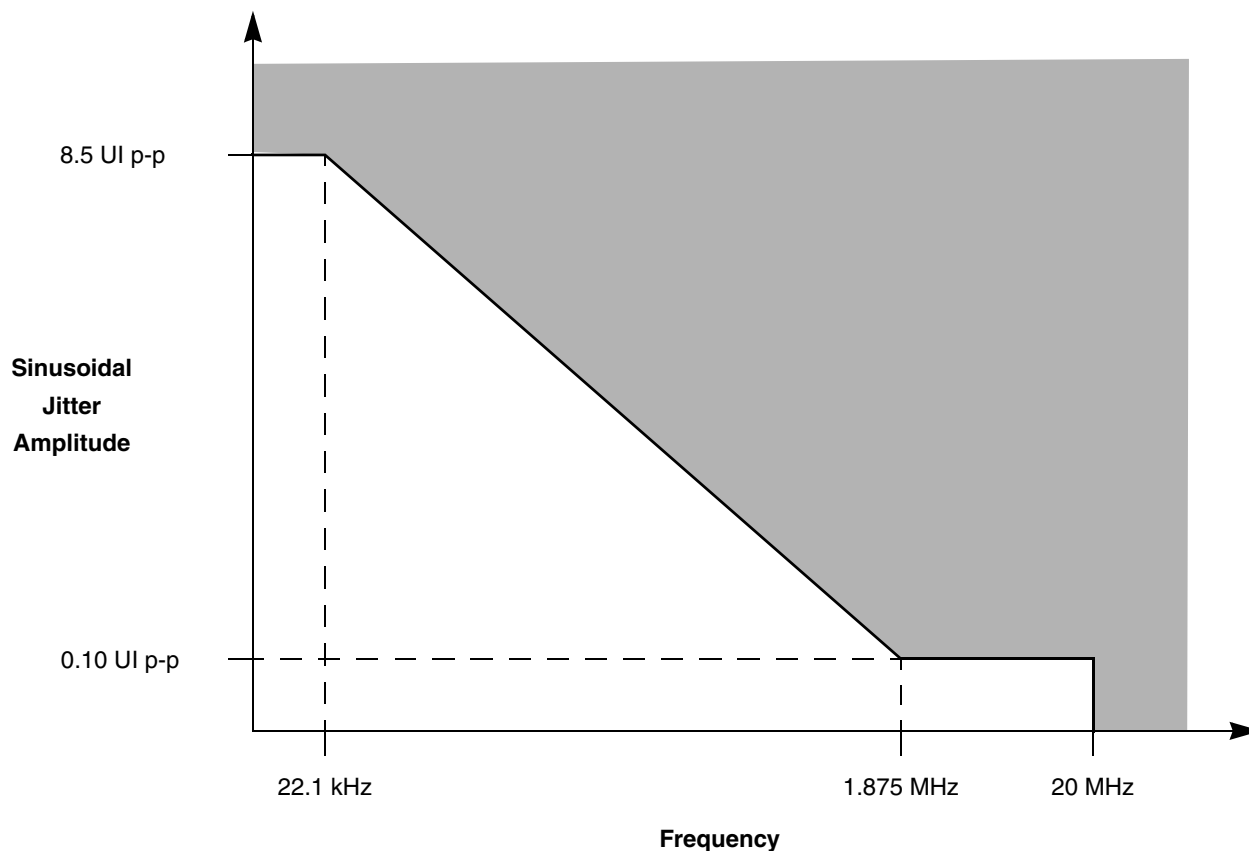

Figure 55. Single Frequency Sinusoidal Jitter Limits
1. Total jitter is composed of three components, deterministic jitter, random jitter and single frequency sinusoidal jitter. The sinusoidal jitter may have any amplitude and frequency in the unshaded region of Figure 55. The sinusoidal jitter component is included to ensure margin for low frequency jitter, wander, noise, crosstalk and other variable system effects.